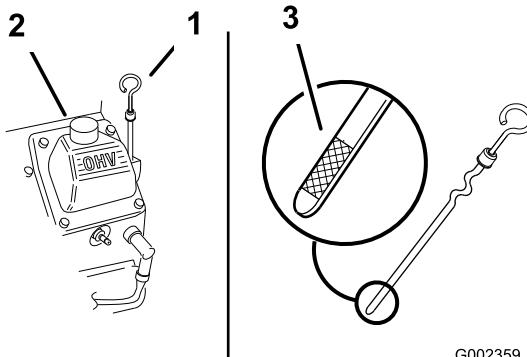

Figure 38
3. Grease the fittings on the 3 spindle bearings (Fig. 38).
4. Grease the idler pulley pivot (Fig. 38).
5. Unscrew the oil dipstick and wipe the end clean (Figure 38).
6. Slide the oil dipstick fully into the filler tube, but do not thread onto tube (Figure 38).
7. Slowly pour approximately 80% of the specified oil into the filler tube (Figure 38).